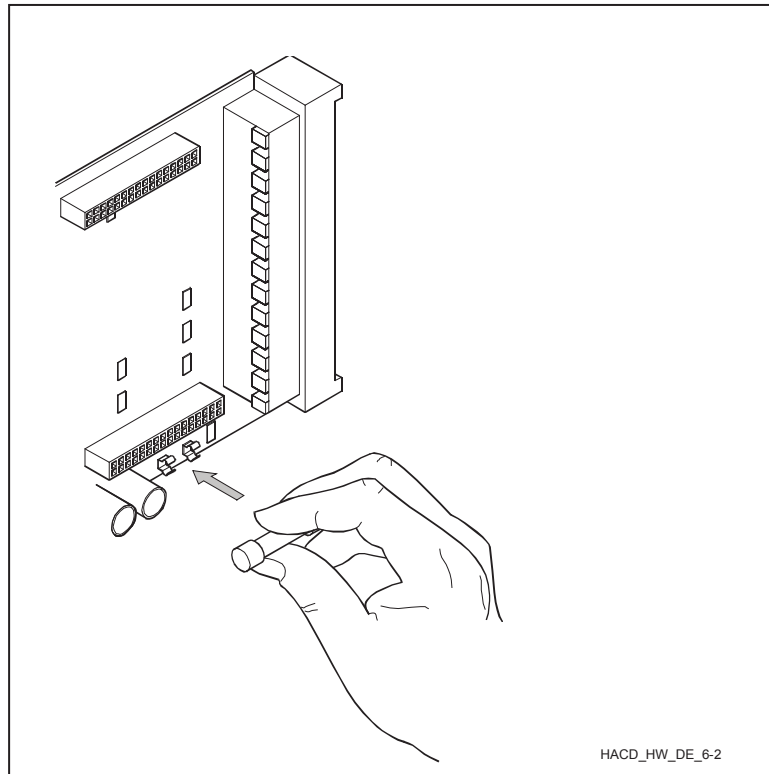

Fig. 8 Fuse on the VRPD Controller Card
- Gently remove the fuse from the fuse holder (see Fig. 8 Fuse on the VRPD Controller Card).